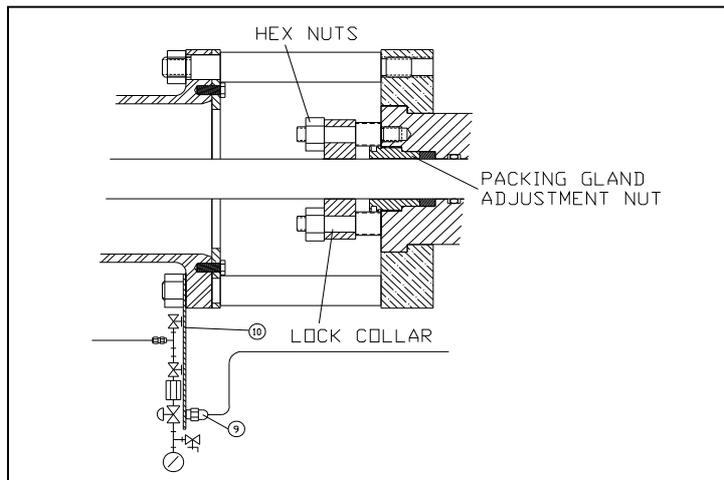

FIGURE 1
- 2.1.2 With the lower unit lying in the horizontal position, loosen the packing gland adjustment nut, and loosen and remove hex nuts (see Figure 1).